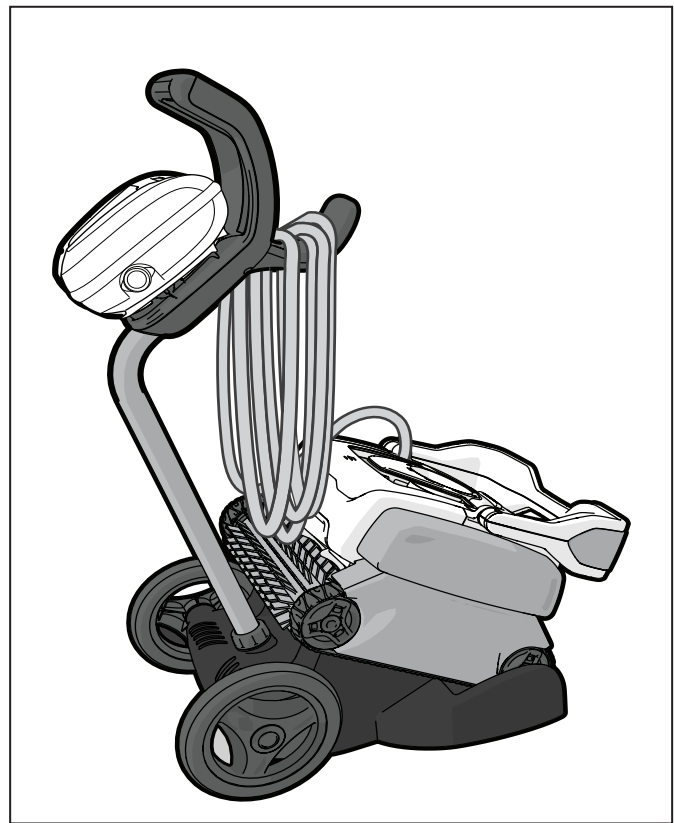

Figure 20. Cleaner Stored Correctly on Caddy
2. Place the cleaner in vertical position on the caddy base with the rear tracks on the caddy side wedges (see Figure 20).
3. Loosely coil the power cable starting at the cleaner and moving toward the connection point at control unit. Store the cable by wrapping it around the hook located on the front of the caddy (see Figure 20).